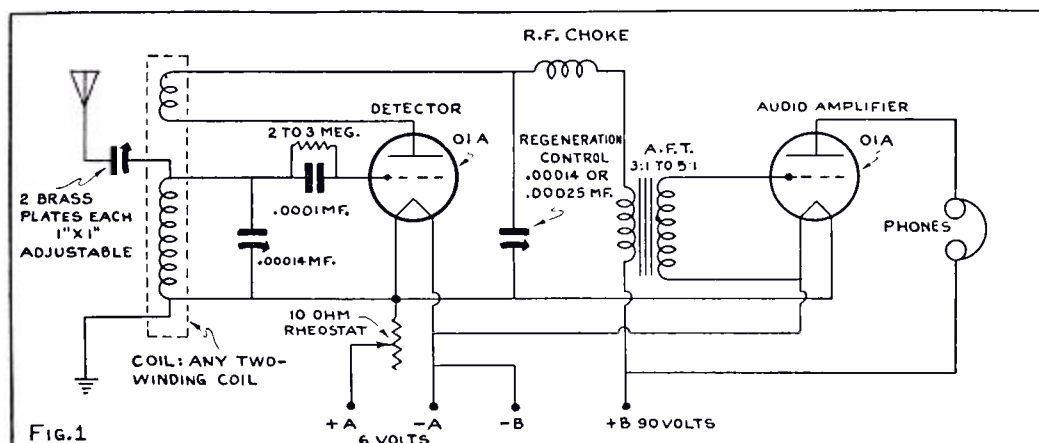
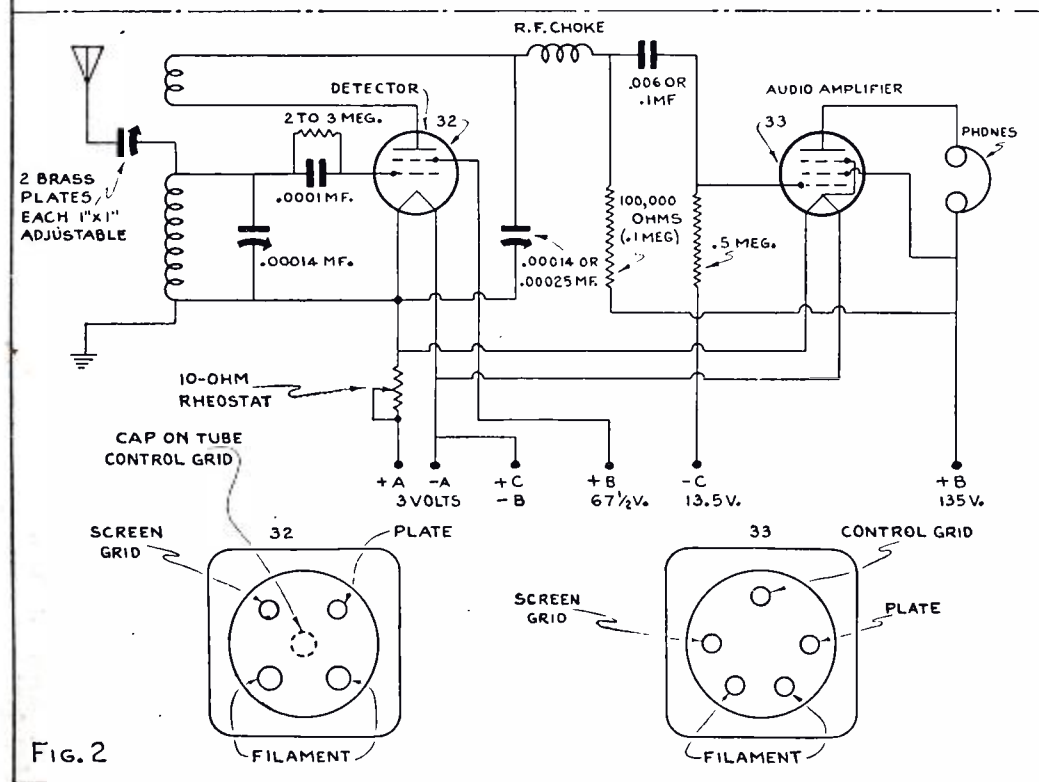
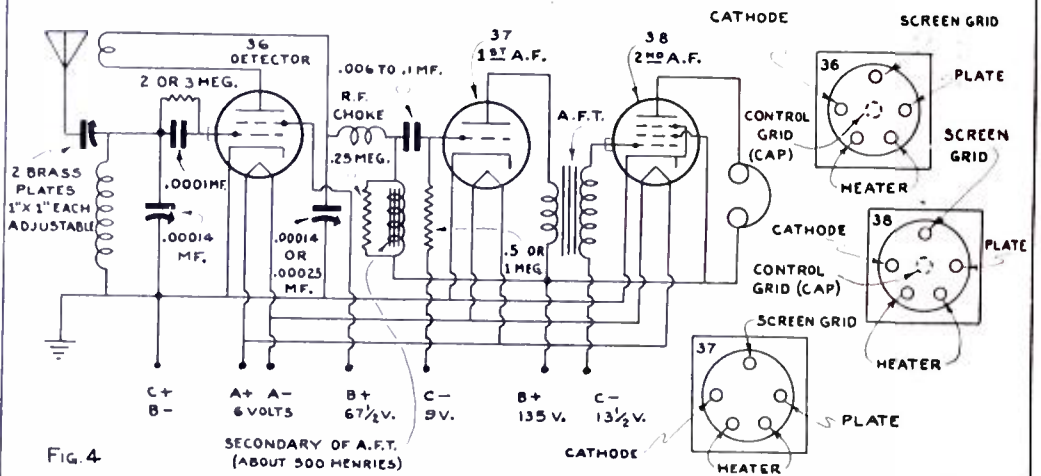
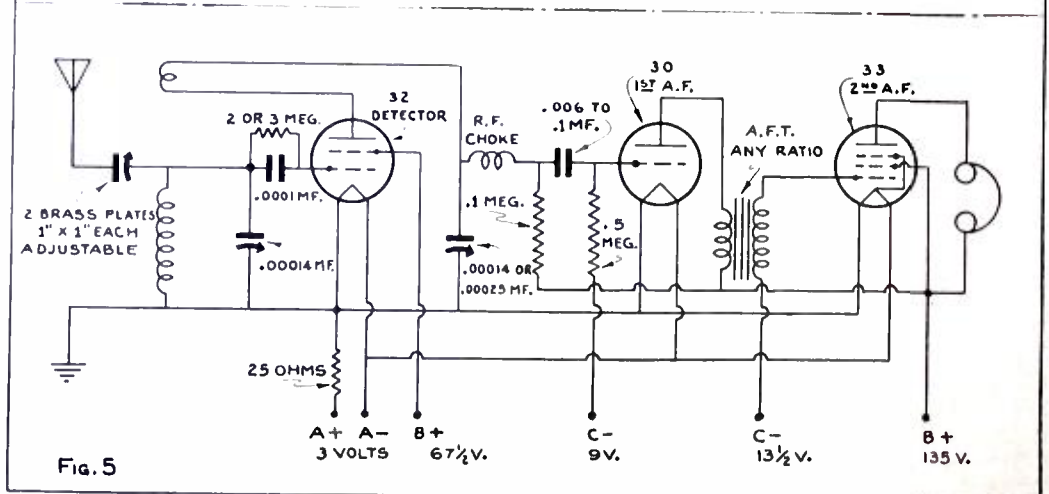

FIG. 1
FIG. 2
Fig. 4
Fig. 5
One of the most popular sets a few years ago was the original *Junk Box* receiver designed by our own Robert Hertzberg. The receiver is extremely simple: it uses two tubes, both 01A's, in a conventional, time-tested circuit. See Fig. 1. There have been no great advances in circuit design since this set was developed; to obtain better reception, all that can be done is to install more modern tubes—tubes that are designed to deliver greater signals.
The revised diagram is shown in Fig. 2. The first thing to do is to replace the four-prong socket used with the audio 01A with a five-prong socket; the same socket may be used with the 32 as was used with the first tube—the 01A—before. Thus, only one new socket is required. The connections to the first tube socket remain the same substantially; the former control grid is now the screen connection, while the grid leak and grid condenser connect to the cap on the top of the 32 tube. Next, remove the audio transformer, and in place of its primary insert a 100,000-ohm resistor (100,000 is the same as .1 megohm, or meg.); in place of its secondary, insert a .5 megohm resistor. Then connect the junction of the r.f. choke and
the .1 meg. resistor to the grid of the 33 through a fixed condenser which may have any value between .006 and .1 mf. The 10-ohm rheostat is retained. Connect the screen grid of the 32 to 67.5 volts and the screen of the 33 to the B plus side of the phones. Finally, connect the various C leads, finish the few connections to the socket of the 33, and the job is finished. For convenience, the socket connections of the 32 and 33 are given in the insert of Fig. 2.
Note that the original circuit of Fig. 1 used no C bias on the audio stage. This point was not overlooked in the original design of the set, but since it was made from spare parts in the junk box, the question of quality was not considered important. In the revised version of Fig. 2, a C battery is necessary for the successful operation of the output tube.
Another point of interest is the fact that the audio transformer used in Fig. 1 was replaced by a standard resistance-condenser combination. True, transformer coupling gives better results—from the standpoint of volume—than resistance coupling, but not in cases where the coupling takes place from a screen-grid tube. Many sets use the second or primary of audio transformers in place of the .1 meg. resistor shown in Fig. 2; however, the resistor is to be preferred. Try both and see which works better in your own case.
**6-volt operation:** Figure 4 is the new circuit suitable for 6-volt operation. A 36 is used as the detector, a 37 in the first-audio stage, and an 38 in the last audio stage. The socket connections of these tubes appear in the insert in the figure. The first significant change is the use of a choke and resistor in place of the first a.f.t. in the plate circuit of the 36. This arrangement allows the d.c. plate current to pass through the choke with a minimum loss in voltage. The .25 meg. resistor across this choke is used as the coupling unit. The choke does not couple, because its impedance at 1,000 cycles is far greater than 250,000 ohms (.25 meg.), so that the resistor shorts it only as far as the signal is concerned. Thus, we gain one of the best advantages of the
**2-volt operation:** The circuit for 2-volt operation requires, of course, a different tube arrangement. In this case, we suggest a 32 as the detector, a 30 in the first a. f. stage, and 33 in the output stage. Here again we revert to the resistance-coupled idea discussed with reference to Fig. 2. For the benefit of those curious experimenters who want to know the "why" of everything, it might be well to state why a combination choke-resistance combination is used in one case, but not in another. The reason lies in the difference in plate resistance between the 32 and the 36. The type 32 tube has an internal plate resistance of 1.15 megohms, while the 36 has an internal plate resistance of but 200,000 ohms (.2 megohm). Since the higher impedance tube cannot have a choke of reasonable size in its plate circuit, because of the shunting effect of the distributed
The socket connection for the tubes used in the circuit of Fig. 5 are shown in either Fig. 2 or Fig. 4; the socket connections for the 30 used in Fig. 5 are exactly the same as for the 01A used previously.